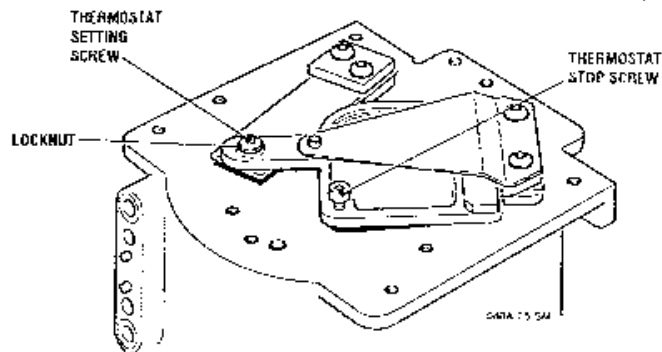

Fig. 3.35 Thermostat Stop Screw And Adjusting Screw Adjustment
3. Observe the manometer and adjust the thermostat stop screw illustrated on Fig. 3.35 until the correct nominal pressure of $227 \pm 0 - 10$ mm H₂O is indicated.